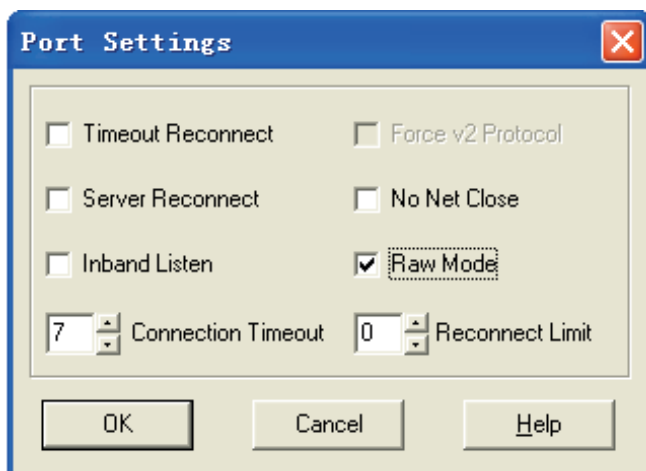

Figure 10: Interface of Port Settings
(4). Click **“Port Settings”** and enter the interface of Port Setting, shown as figure 10. Select **“Raw Mode”** and click **“OK.”**